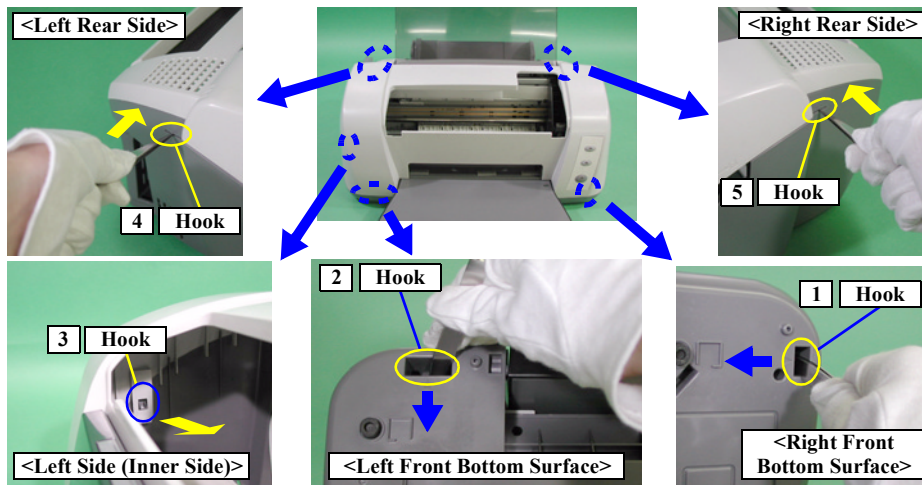

Figure 4-3. Upper Housing Removal 2
3. Follow the order shown in Figure 4-3 to release 5 hooks from the Lower Housing. (Use a pair of tweezers to press hooks 1 and 2 into slots and release while pressing in the direction of the arrow. Hooks 4 and 5 can be released by pressing them through the slots with a pair of tweezers.)